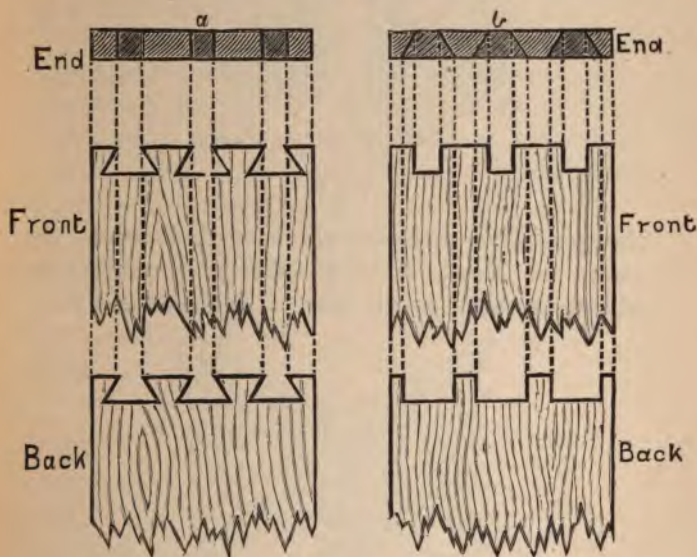
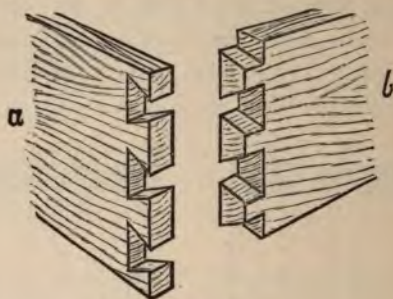
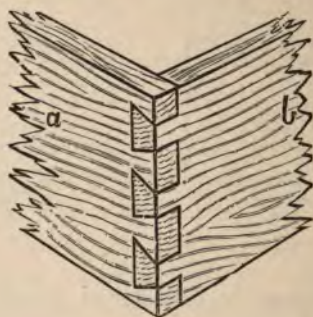

FIG. 43.
FIG. 44.
FIG. 45.
complished, you will find it easier each time you have one to do; and it gives your work such neatness and solidity that we are sure you will introduce it into all your best work. In Fig. 43, *a* and *b* show how the marking and the sawing must be done. Try it first with wood from  $\frac{3}{4}$  inch to 1 inch thick. You see it has to be so arranged
*a* in Fig. 43; then do the same for *b*. Next, cut very carefully with a tenon-saw the slits for each tail-piece; then with a mortise-chisel cut along
which this fits is represented in its various stages at *b*, Fig. 43. Fig. 44 shows *a* and *b* cut and smoothed up ready to fit together, as in Fig. 45; the ends will probably stand from  $\frac{1}{8}$  to  $\frac{1}{4}$  of an inch